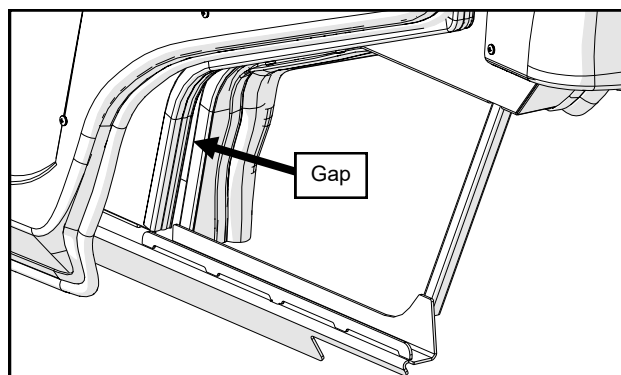
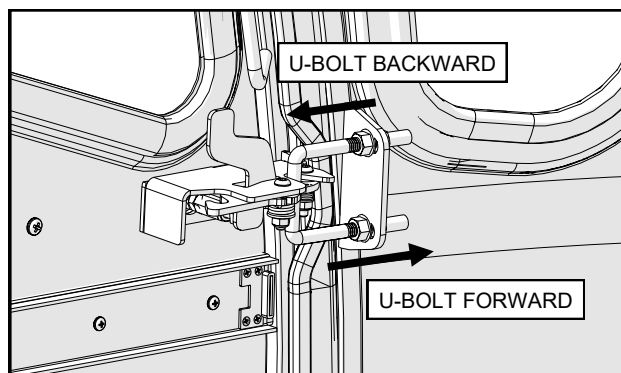

Fig. 5.1a (door contour gap - left side)
Fig. 5.1b (U-Bolt adjustment - left side)
**5.1** Per figure 5.1a, check to see if there are any gaps between the door contour rubber and side frame contour tube. If there is, you will need to adjust the U-Bolt (Figure 5.1b) forward until the rubber is fully sealed.
(2) 9/16" Wrenches
**5.2** If the door does not latch in the closed position consistently, adjust the U-Bolt (Figure 5.1b) backwards.